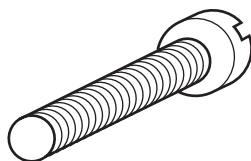

Fig. 3
- (d) Fig. 3 shows a set screw used in the assembly of the shower unit.